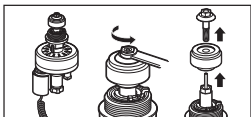

Figure P1
The valve actuator is factory set to fit a 3/4" brass manual anti-siphon valve. To install the controller on an actuator with a 1" manual anti-siphon valve, the 3/4" seat washer and adapter must be removed and replaced with the 1" adapter and seat washer, which are included with the actuator (Figures P1-P6).
2. Using pliers or a 5/16" wrench, remove the seat washer screw by turning it counterclockwise and pull off the 3/4" seat washer assembly (Figure P1).